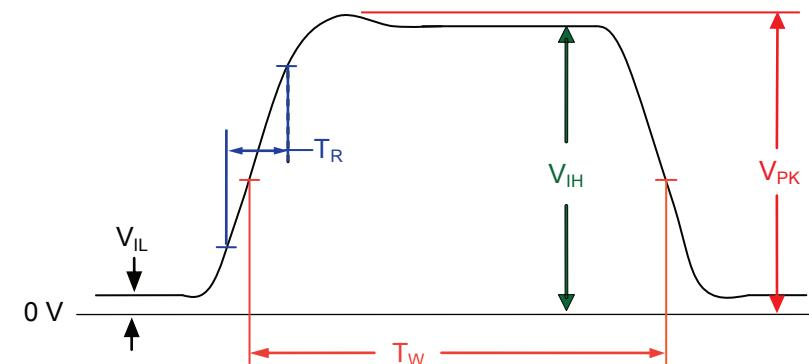

Figure 31 Required Characteristics of Flashlamp and Q-Switch Trigger Input Signals
- Figure 31 shows the required characteristics of the flashlamp trigger signal.